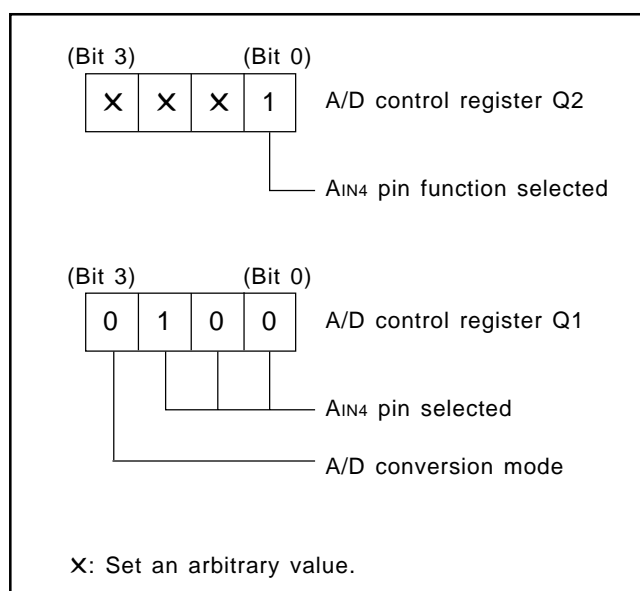

Fig. 35 Setting registers
- ① Select the AIN4 pin function with the bit 0 of the register Q3. Select the AIN4 pin function and A/D conversion mode with the register Q1 (refer to Figure 35).
- ② Execute the ADST instruction and start A/D conversion.
- ③ Examine the state of ADF flag with the SNZAD instruction to determine the end of A/D conversion.
- ④ Transfer the low-order 2 bits of converted data to the high-order 2 bits of register A (TALA instruction).
- ⑤ Transfer the contents of register A to  $M(Z, X, Y) = (0, 0, 2)$ .
- ⑥ Transfer the high-order 8 bits of converted data to registers A and B (TABAD instruction).
- ⑦ Transfer the contents of register A to  $M(Z, X, Y) = (0, 0, 1)$ .
- ⑧ Transfer the contents of register B to register A, and then, store into  $M(Z, X, Y) = (0, 0, 0)$ .